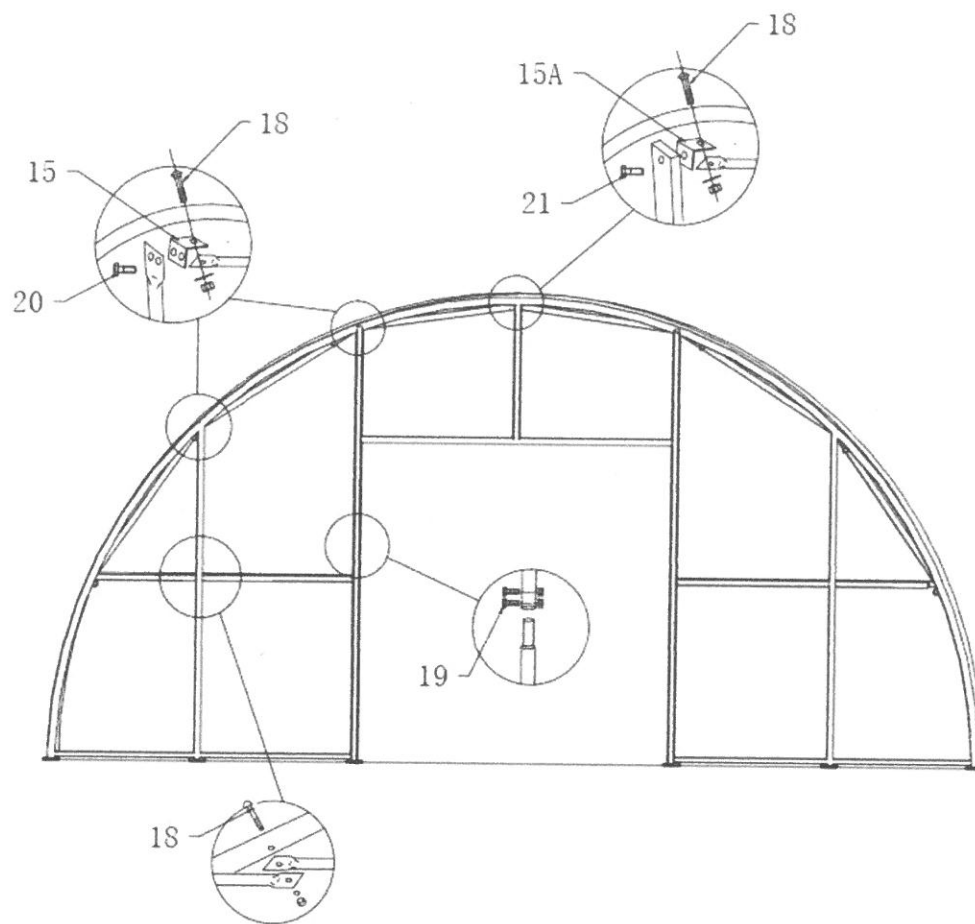

Figure 8
1. Please install the front and back door frame according to the above drawing (Figure 8). Find corresponding bolts and tubes, connect each other.